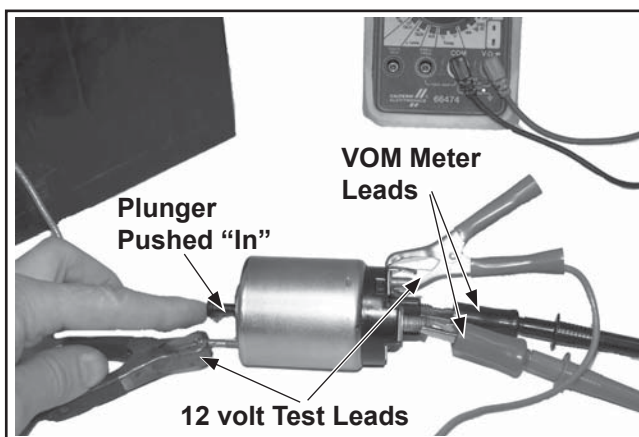

Figure 7-71. Testing Hold-In Coil/Solenoid Contact Continuity.
Use an ohmmeter set to the audible or Rx2K scale, and connect the two ohmmeter leads to the two large post terminals. Perform the preceding test (3) and check for continuity. See Figure 7-71. The meter should indicate continuity, if no continuity is indicated the solenoid should be replaced. Repeat test several times to confirm condition.